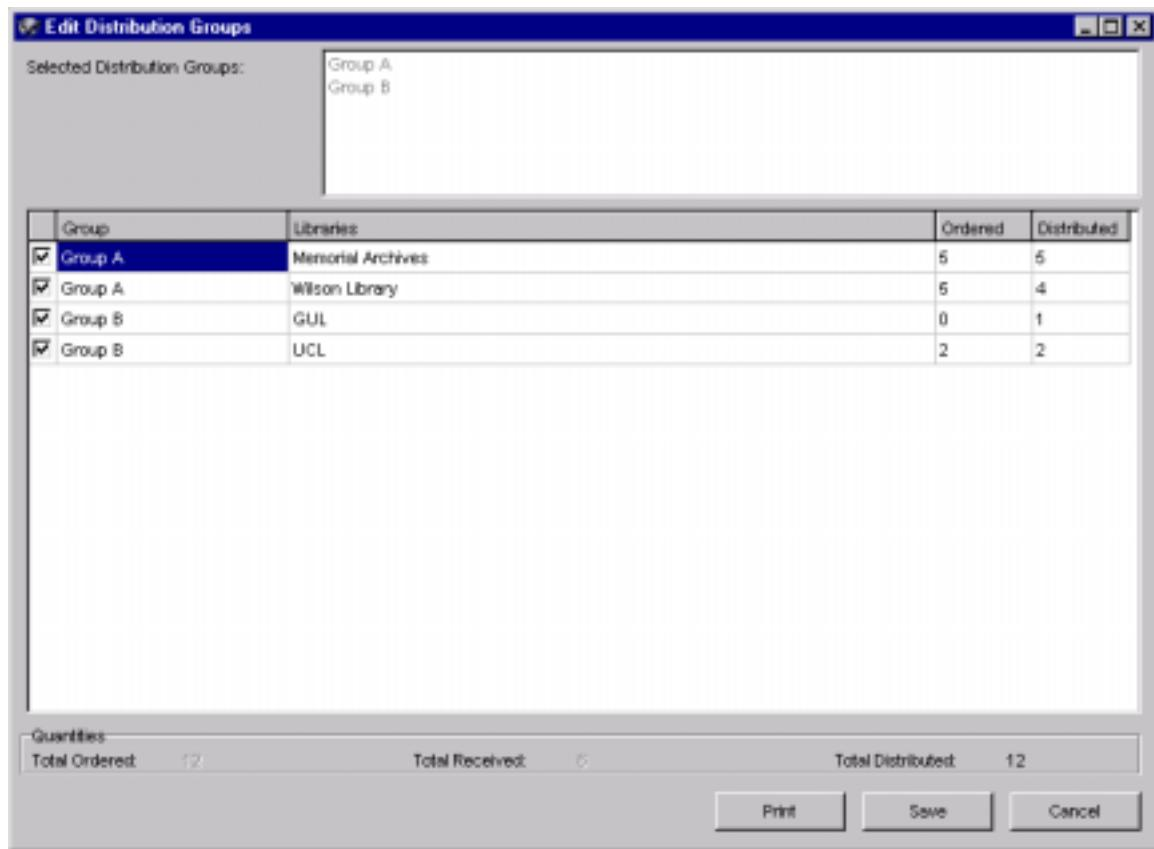

Figure 4-8. Edit Distribution Groups
After editing, the Edit Distribution Groups window might look like Figure 4-8.
1. On the Edit Distribution Groups window (Figure 4-8), click the Print button.